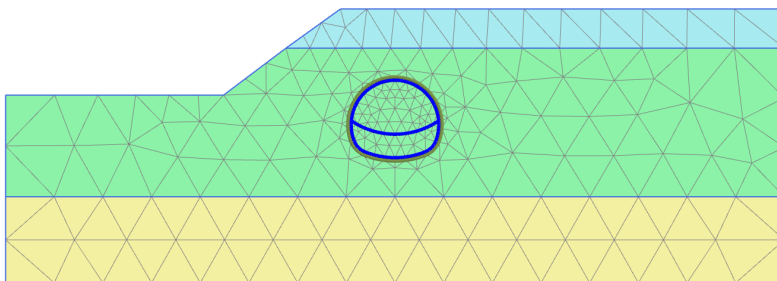

Figure 7.5 The generated mesh
-  View the mesh. The generated mesh is shown in Figure 7.5.